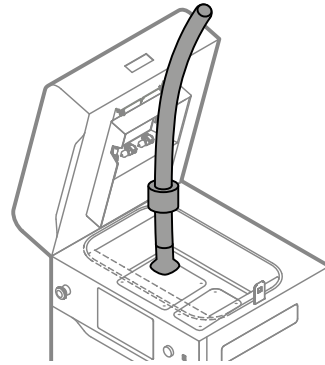

Fig. 13.45 Vacuum powder from Feed Bed.
18. Vacuum powder from the Feed Bed. Use appropriate nozzles (fig. 13.45).